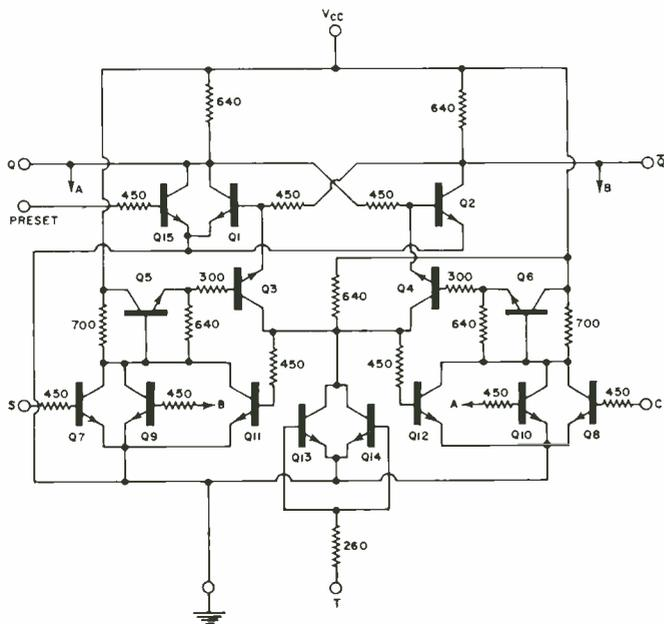
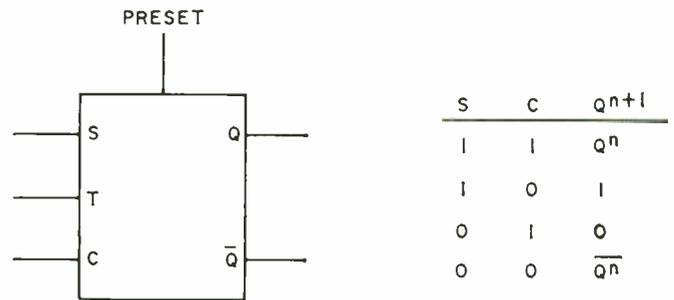

Fig. 6. Schematic diagram of typical JK flip-flop circuit. This complex circuit is readily fabricated on an IC chip.
Fig. 7. Logic symbol and truth table for the JK flip-flop.
Fig. 6 is a schematic diagram of a typical JK flip-flop. Its associated logic symbol and truth table appear in Fig. 7. The JK flip-flop is the basic building block for logic-element counters and frequency dividers.
Whether or not the FF changes state at the instant the CP arrives depend on (a) the state of the FF just prior to the arrival of the CP, (b) the level of input S just prior to the arrival of the CP, and (c) the level of input C just prior to the arrival of the CP. The S and C columns of the truth table in Fig. 7 list all possible combinations of levels that might be present on S and C just prior to the arrival of the CP. The  $Q^{n+1}$  column shows the corresponding FF states that will exist after the arrival of the CP. The term  $Q^n$  represents the FF state that existed prior to the arrival of the CP. The term  $\bar{Q}^n$  represents the FF state that is the opposite of that which existed prior to the arrival of the CP.
The gate of Fig. 1, the buffer of Fig. 3, and the JK flip-flop of Figs. 6 and 7 are readily available commercial integrated circuits. The devices used by the author are members of the *Fairchild* Industrial Resistor-Transistor Micrologic integrated circuit family. These three devices are available in economy epoxy-encapsulated packages. The *Fairchild* part numbers and prices (for quantities of 1 to 99) in effect at the time of this writing are: 9914 medium-power dual two-input gate, part number U8A991428, \$0.80 each; 9900 medium-power buffer, part number U8A990028, \$0.80 each; 9923 medium-power JK flip-flop, part number U8A992328, \$1.50 each. Comparable units available in the *Motorola Semiconductor Products Inc.* MC700P series line are: MC724P quad two-input gate, MC799P dual buffer, and MC723P JK flip-flop or MC790P dual JK flip-flop.
The 9914 contains two gates like the one in Fig. 1. The package pin connections are shown in Fig. 8A. The 9900 contains one buffer like the one in Fig. 3. The package pin connections are shown in Fig. 8B. The 9923 contains one flip-flop like the one in Figs. 6 and 7. The package pin connections are shown in Fig. 8C. The FF will operate to at least 2 MHz.
Fig. 8. (A) Pin connections for the U8A991428 two-input gate containing two of the gates shown in Fig. 1. (B) Pin connections for the U8A990028 buffer shown in Fig. 3. (C) Pin connections for the U8A992328 JK flip-flop shown in Fig. 6.